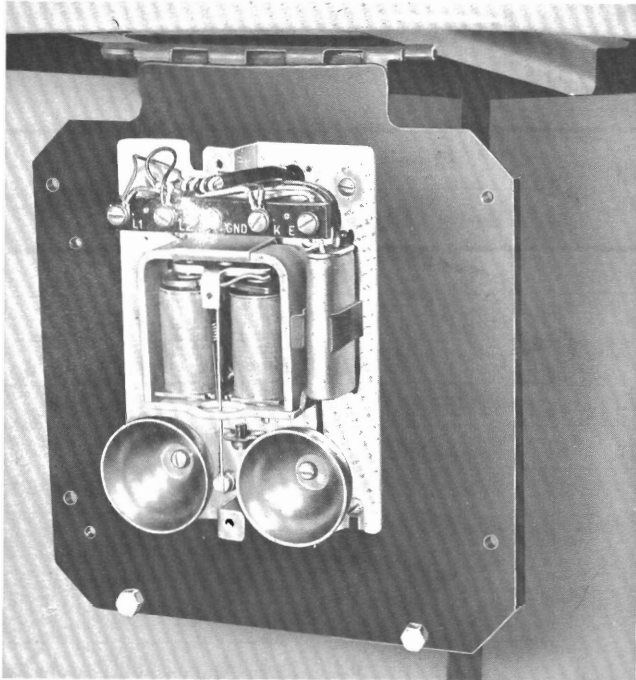

Fig. 3 — Hinged Mounting Plate on 18-type Shelf
5.02 It is equipped on the underside with a hinged mounting plate which is arranged for mounting a 531-, 634-, 684-, or 685-type subscriber set or E1A ringer (Fig. 3).